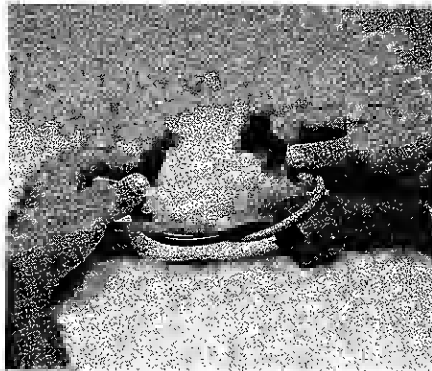

FIGURE 8
2. The power cord pigtail may be secured to your extension cord by tying the two together. Figures 8 and 9